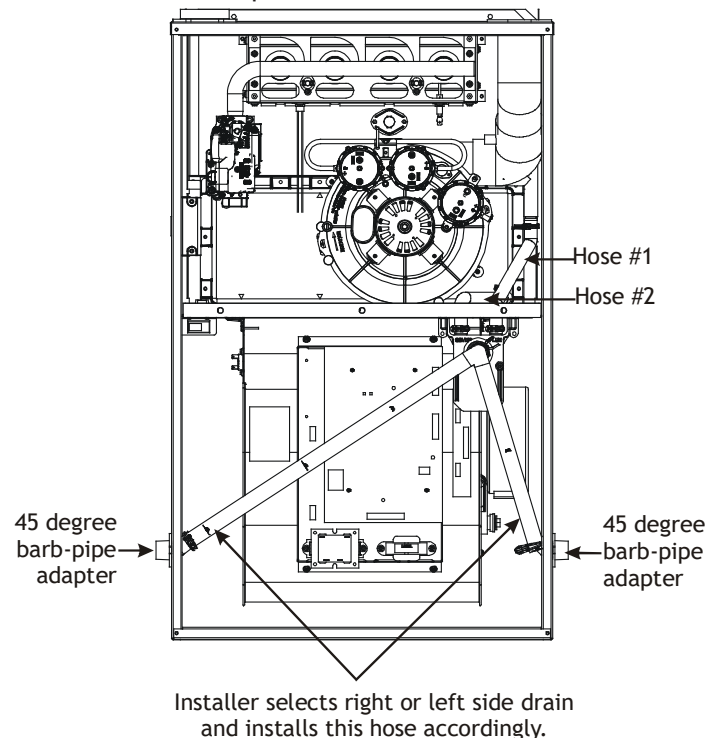

Figure 24
The trap and factory installed hoses remain as shipped. The furnace drain may exit either the right or left side of the furnace cabinet. Both sides of the cabinet have two .875" diameter holes which can be used interchangeably for drain and low voltage wiring purposes. If a higher drain exit is needed, a .875" diameter hole may be added in the area shown in Figure 24. Any unused cabinet opening must be sealed. Do not allow drain hose to sag or trap water.
1. Locate and Install the 45° pipe / hose drain coupling from the outside of the cabinet (barbed end goes in the cabinet) through hole in the right side of the cabinet and secure with two field supplied #8 self-tapping screws (see Figure 24).
1. Install the 45 degree pipe / hose drain coupling from the outside of the cabinet (barbed end goes in the cabinet) through the hole in the left side of the cabinet and secure with two field supplied #8 self-tapping screws (see Figure 24).